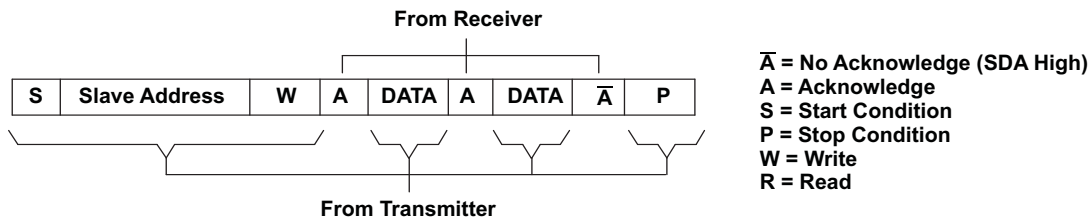
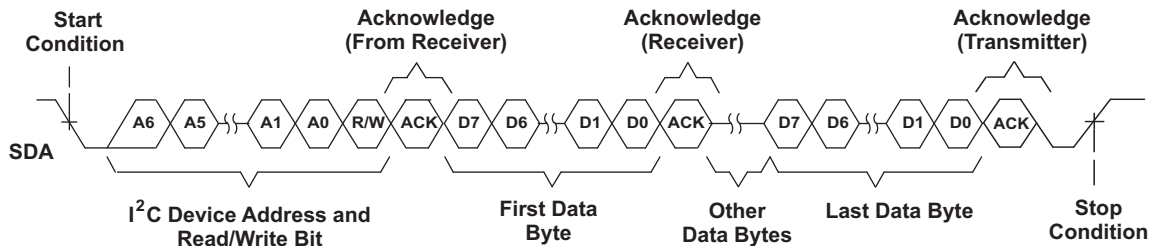
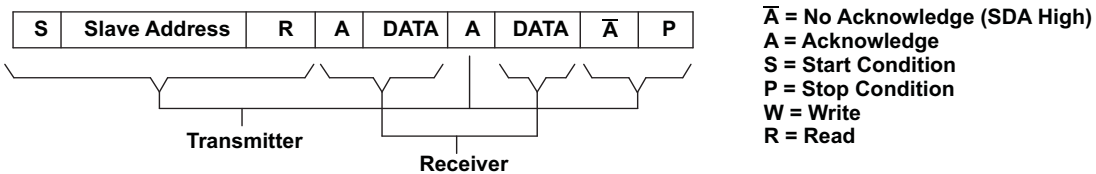
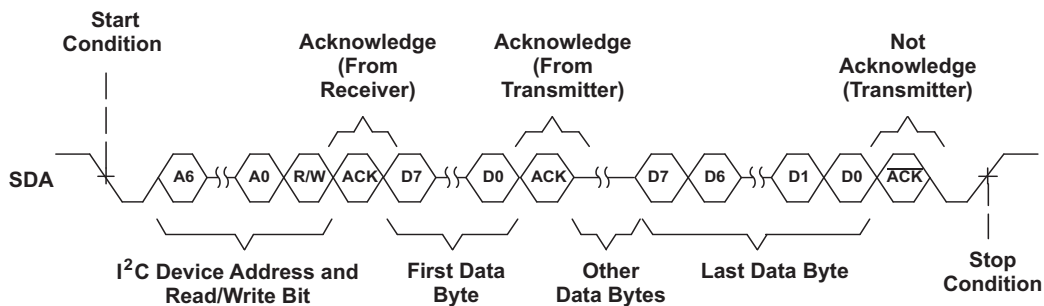

Figure 74. I2C Write Cycle
Figure 75. Multiple Byte Write Transfer
Figure 76. I2C Read Cycle
Figure 77. Multiple Byte Read Transfer
During a write cycle, the transmitting device must not drive the SDA signal line during the acknowledge cycle, so that the receiving device may drive the SDA signal low. After each byte transfer following the address byte, the receiving device pulls the SDA line low for one SCL clock cycle. A stop condition is initiated by the transmitting device after the last byte is transferred. An example of a write cycle can be found in Figure 74 and Figure 75. Note that the THS7353 does not allow multiple write transfers to occur. See example section, Writing to the THS7353 for more information.
During a read cycle, the slave receiver acknowledges the initial address byte if it decodes the address as its address. Following this initial acknowledge by the slave, the master device becomes a receiver and acknowledges data bytes sent by the slave. When the master has received all of the requested data bytes from the slave, the not acknowledge (A) condition is initiated by the master by keeping the SDA signal high just before it asserts the stop (P) condition. This sequence terminates a read cycle as shown in Figure 76 and Figure 77. Note that the THS7353 does not allow multiple read transfers to occur. See example section, Reading from the THS7353 for more information.
The THS7353 operates using only a single byte transfer protocol similar to Figure 74 and Figure 76. The internal subaddress registers and the functionality of each are found in Table 2. When writing to the device, it is required to send one byte of data to the corresponding internal subaddress. If control of all three channels is desired, then the master has to cycle through all the subaddresses (channels) one at a time, see the example section, Writing to the THS7353 for the proper procedure of writing to the THS7353.